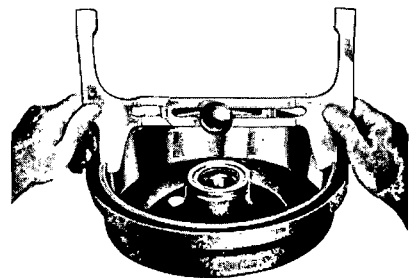

FIG. 13—Measuring Drum
1. Using Rotunda Tool HRE 8650, (Fig. 13) determine the inside diameter of the drum braking surface.